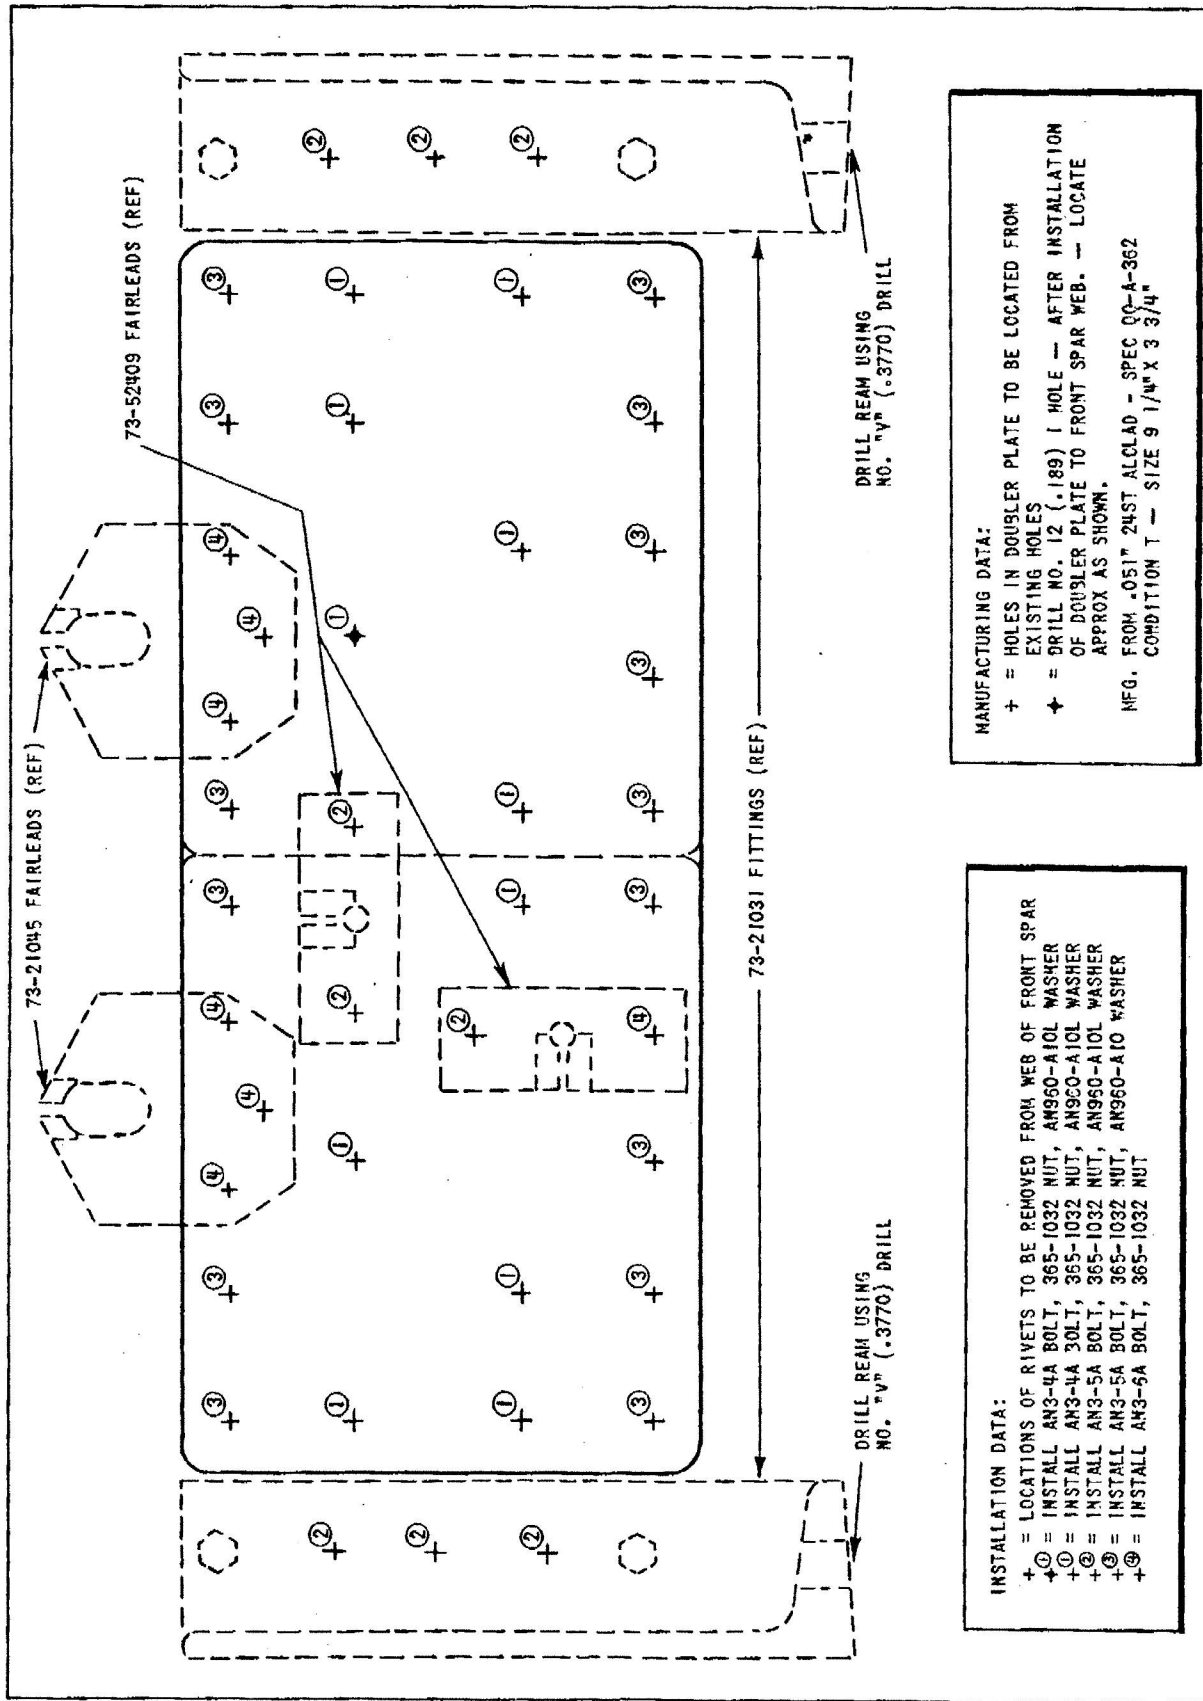

Figure 2 - Horizontal Stabilizer Front Spar Reinforcing Doubler
a. Visually inspect center of front spar (figure 1) of the horizontal stabilizer to determine if the doubler illustrated in figure 2 has been installed and secured to the front spar between the fittings, part No. 73-21031, with 3/16-inch bolts. Also inspect fittings to determine if the center three rivets through the front spar have also been removed and replaced with 3/16-inch bolts. If doubler has not been installed or if
b. Manufacture a horizontal stabilizer front spar reinforcing doubler in accordance with figure 2.
j. Secure the new doubler to the forward side of the front spar using bolts as indicated in figure 2.
l. Secure the four fair-leads to the spar using AN3- bolts as indicated in figure 2. Install bolts so that nuts are on aft side of spar.
m. Locate a point 1/2 inch below the left-hand fair-lead, part No. 73-21045, on the fair-lead center line, and drill a No. 12 (.189-inch) hole through the doubler and spar. (See figure 2.) Install bolt and secure with nut on aft side of spar and washer under bolt head.